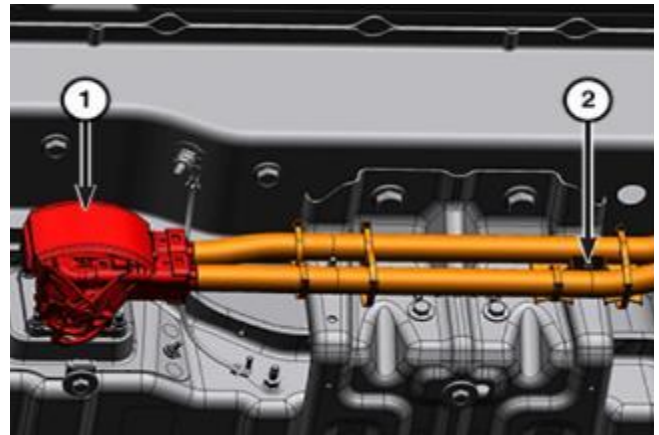
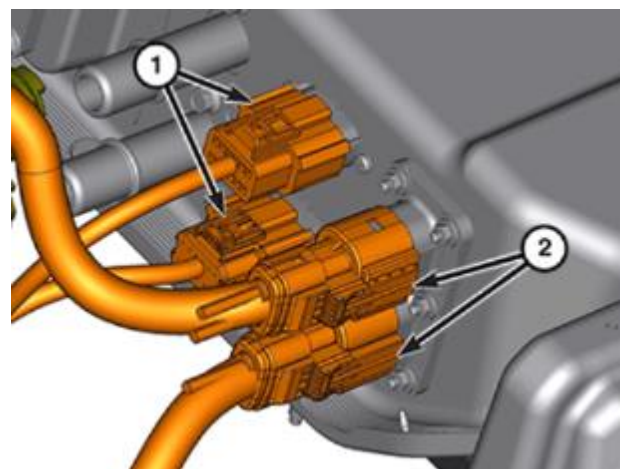

Figure 16 – Wire Harness
Figure 17 – Wire Harness
26. Disengage the two wire harness retainers (2) from the high-voltage battery (Figure 16).
27. Unlock and disconnect the Power Inverter Module (PIM) high-voltage wire harness connector (1) from the high-voltage battery. Cap the connector on the high-voltage battery with the Covers, HEV Battery Terminal 2035100082
28. Unlock and disconnect the low-voltage wire harness connectors (1) from the high-voltage battery (Figure 17).
29. Unlock and disconnect the On-board Charging Module (OBCM) and Electric Coolant Heater (ECH) high-voltage wire harness connectors (2) from the high-voltage battery.